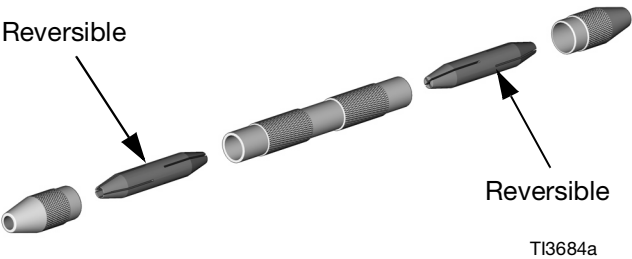

FIG. 14: Pin Vise
- 117661 Pin Vise; dual reversible chucks, see FIG. 14